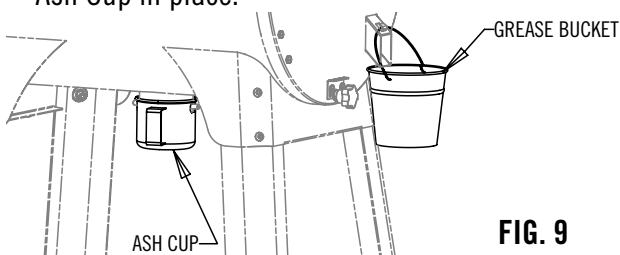

FIG. 9
1. Hang grease bucket from tube as shown in Fig 9.
1. Install Ash Cup as shown in Fig 9. Never use grill without Ash Cup in place.